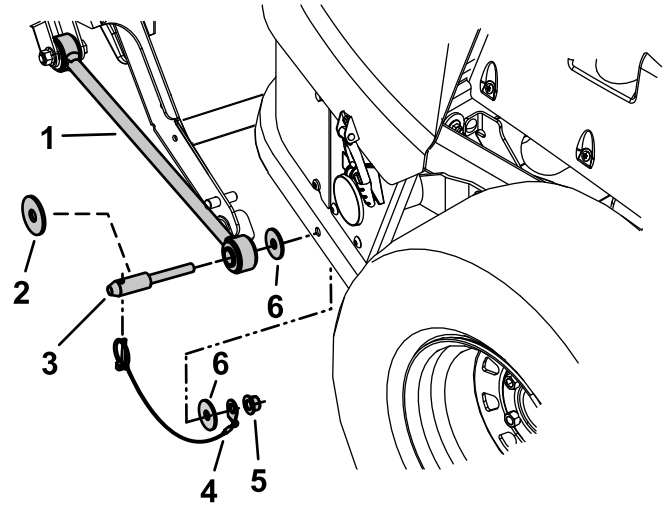

Figure 15
4. Secure the rod-support assembly to each side of the rear frame using 2 bagger pins, 2 flat washers, 4 thrust washers, 2 mount-pin lanyards, and 2 locknuts (1/2 inch) as shown in Figure 15.